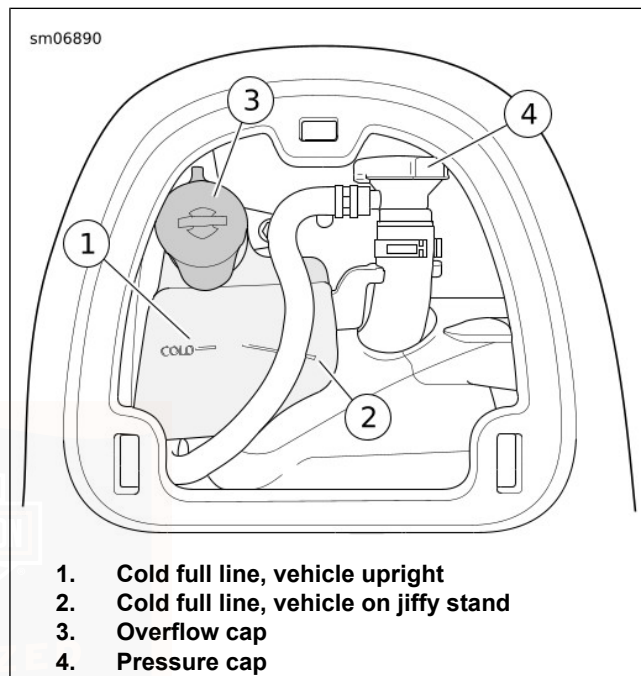

Figure 75. Coolant Level
See Figure 75. The coolant bottle has two lines. Use the angled line (2) when the motorcycle is leaning on the jiffy stand.
2. See Figure 75. Check that coolant level in coolant bottle is at or slightly above the "COLD" line (1).